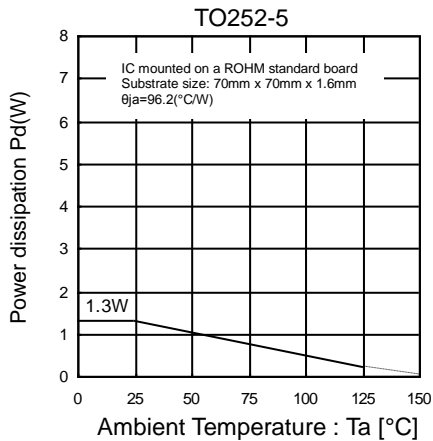
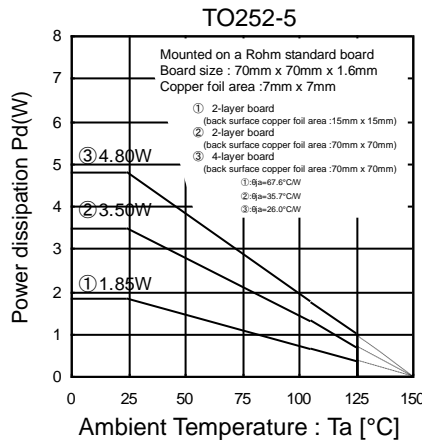
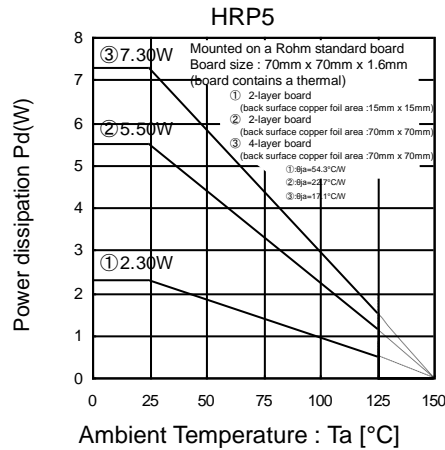

Figure 15
Figure 16
Figure 18
Refer to the heat attenuation characteristics illustrated in Figure 15 to Figure 18 when using the IC in an environment where Ta exceeds 25°C. The operating temperature of the IC greatly influences the characteristics of the IC. If the temperature exceeds the maximum junction temperature Tjmax, the elements of the IC may be deteriorated or damaged. It is necessary to give sufficient consideration to the heat of the IC in view of two points, i.e., the protection of the IC from instantaneous damage and the maintenance of the reliability of the IC in long-time operation.
In order to protect the IC from thermal destruction, it is necessary to operate the IC below the maximum junction temperature (Tjmax) Figure 15 and Figure 16 illustrate the power dissipation/heat attenuation characteristics for the TO252 package. Operate the IC within the power dissipation Pd. The following method is used to calculate the power consumption Pc (W).
$$I_{OUT} \leq \frac{2.496 - 12 \times I_{CC}}{12 - 5} \quad \left( \begin{array}{l} \text{Figure 16 } \textcircled{3} : \theta_{ja} = 26.0^\circ\text{C/W to } -38.4\text{mAW}/^\circ\text{C} \\ 25^\circ\text{C} = 4.80\text{W to } 85^\circ\text{C} = 2.496\text{W} \end{array} \right)$$